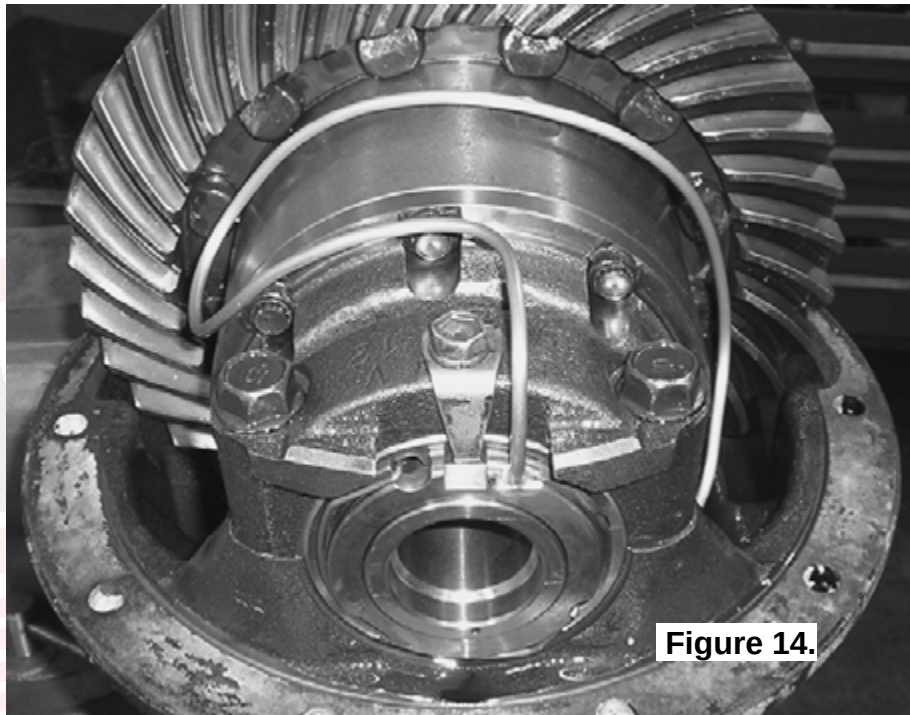

Figure 14.
- ☐ With the seal housing tube now firmly secured into the bulkhead fitting, bend the tube so that it closely follows the profile of the differential. (Figs.14. & 15.)